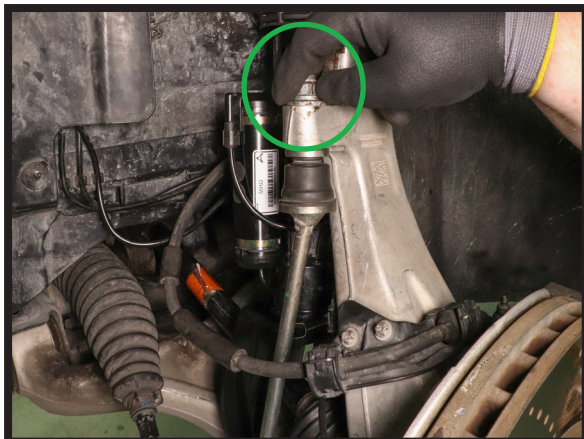

FIGURE 33
6. REINSTALL SWAY BAR LINKAGE AND TIGHTEN TO MANUFACTURER'S SPECIFICATIONS. (FIGURES 33, 34)